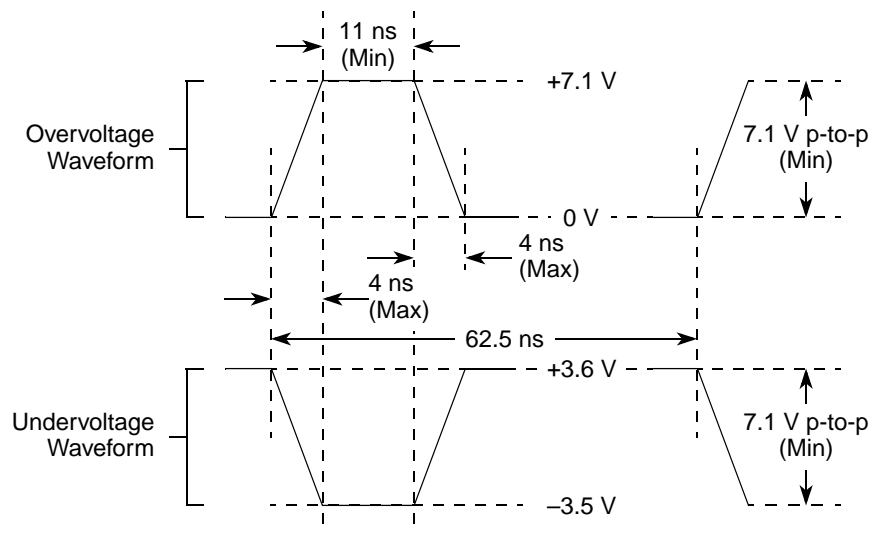

Figure 4. Maximum AC Waveforms on PCI interface for 3.3-V Signaling
- OV_{IN} on the PCI interface may overshoot/undershoot according to the PCI Electrical Specification for 3.3-V operation, as shown in Figure 4.